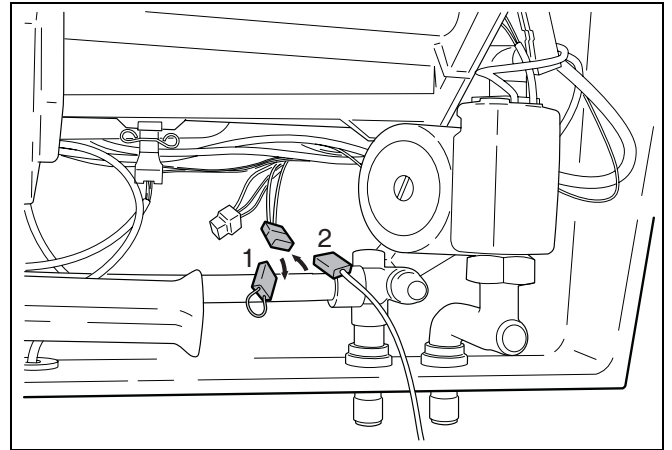

fig. 32 Hot water sensor FW for external storage-type water heater
- Remove the bridge plug (fig. 32, item 1).
- Connect 3-m long extension cable (fig. 32, item 2) for the hot water sensor to the plug and fit sensor in the reservoir.